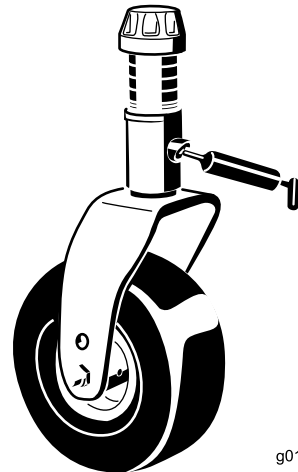

Figure 39
- 2 castor-fork-shaft bushings (Figure 39)